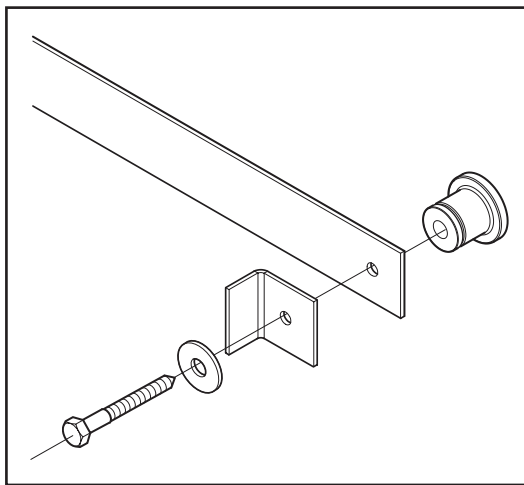

Figure 4
7. Attach one end of the track to the wall with one hard or soft stop, one lage screw, and one washer (provided) using a socket wrench with 9/16" socket (Figure 4). Do not tighten.